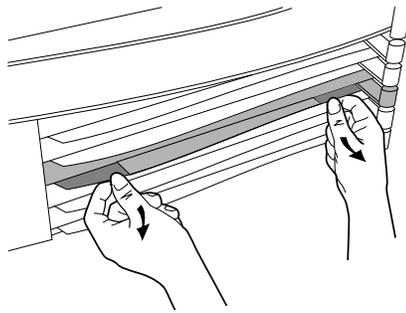
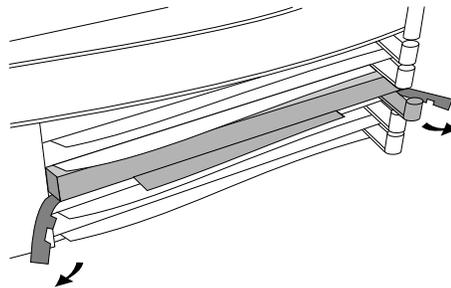

Figure 2. Unlocking the Card Bezel
Figure 3. Disengaging the Card Bezel
5. Press down slightly on the insides of both locks on the bezel of the old card or blank (see figure 2), then swing them outward until the bezel disengages (see figure 3).